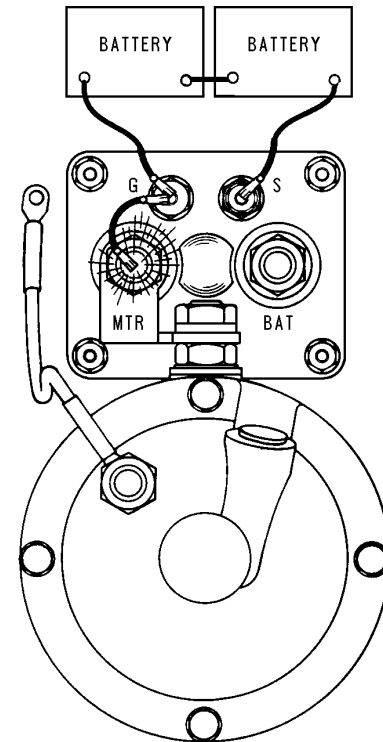

FIGURE 17-7. PINION CLEARANCE CHECK CIRCUIT
1. Make connections as shown in Figure 17-7.